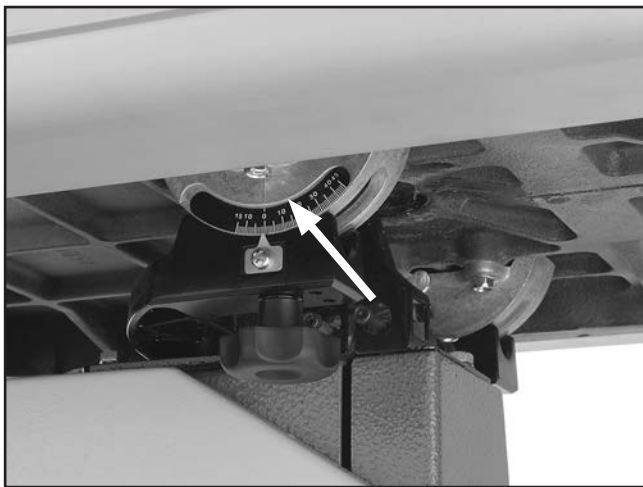

Figure 26. Table tilt scale.
2. Loosen the screw on the pointer (**Figure 26**), but do not remove it.